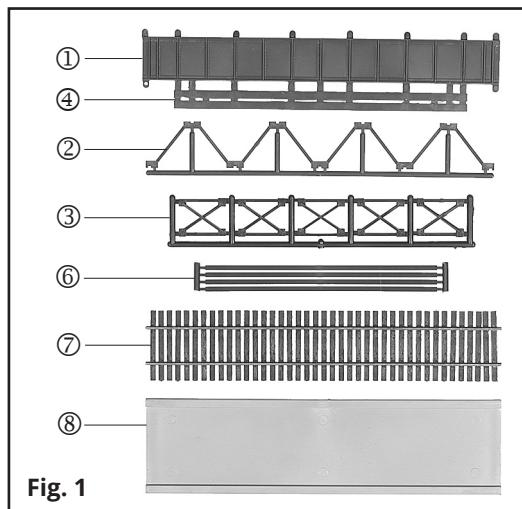

Fig. 1
- The parts and the number needed to assemble your kit are listed below and keyed to the photo. See fig. 1. Part size and sprue configuration will vary between kits from the parts shown. Extra parts that will not be used may be included in your kit.